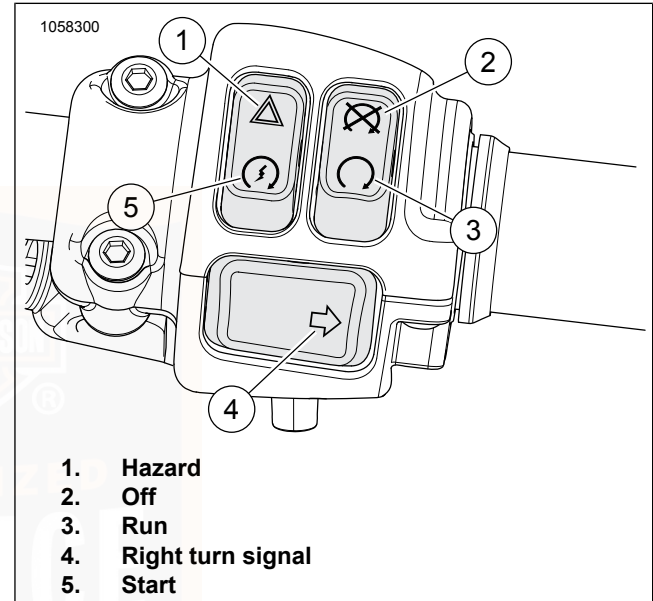

Figure 31. Right Hand Control Switches
See Figure 31. The hazard switch (1) is used to leave a stranded motorcycle in the 4-way flashing mode. With the
See Figure 31. The start switch (5) is on the right handlebar control module. Refer to Table 32.
1. Switch the OFF/RUN switch to the run position (3). Shift the transmission to neutral. The neutral (green) indicator illuminates. See Starting the Engine (Page 88).
2. Press the start switch (5) to operate the starter motor.
See Figure 31. Press the engine OFF/RUN switch to off (2) to shut off the engine. Refer to Table 32.
See Figure 31. Push the engine OFF/RUN switch to run (3) to enable engine start and run. The engine OFF/RUN switch must be in the run position to start or operate the engine. Refer to Table 32.
See Figure 31. Press the right turn signal switch (4) to activate the right turn signal. Refer to Table 32.